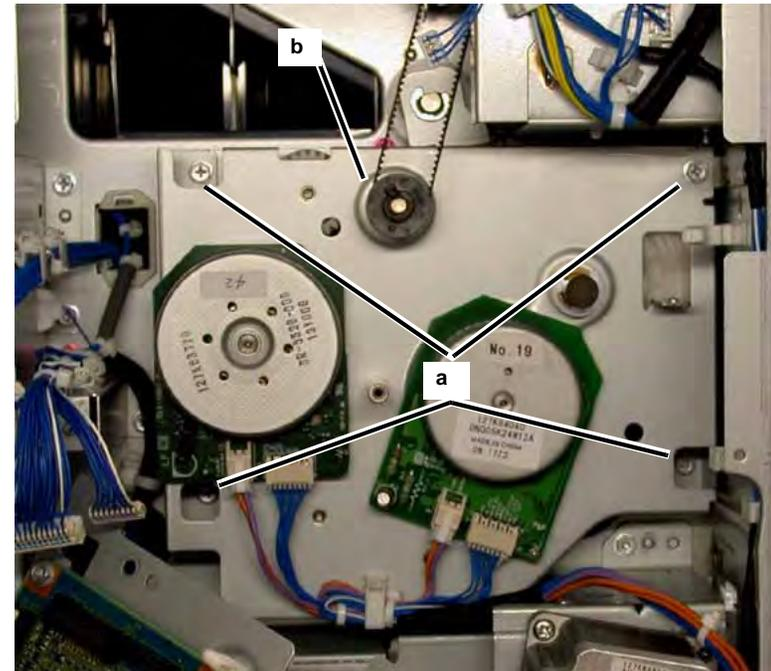

Figure 5 Removing Screws
6. Remove the Main Drive (Figure 5).
- a. Remove the Screws (4).